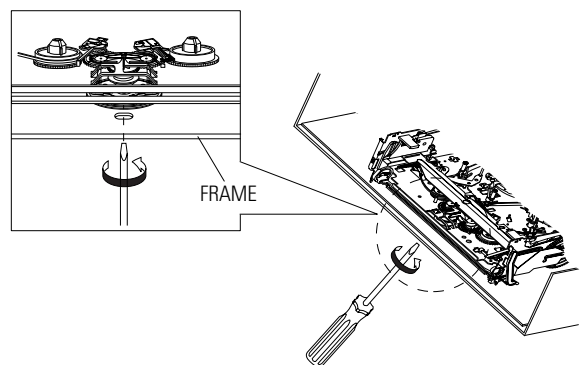

Fig. 1-36
- 2) When Slider S,T are approached in the position of unloading, rotate holder Clutch counterclockwise after inserting screw driver in the hole of frame's bottom in order to wind the unwinded tape. (Refer to Fig.1-36)